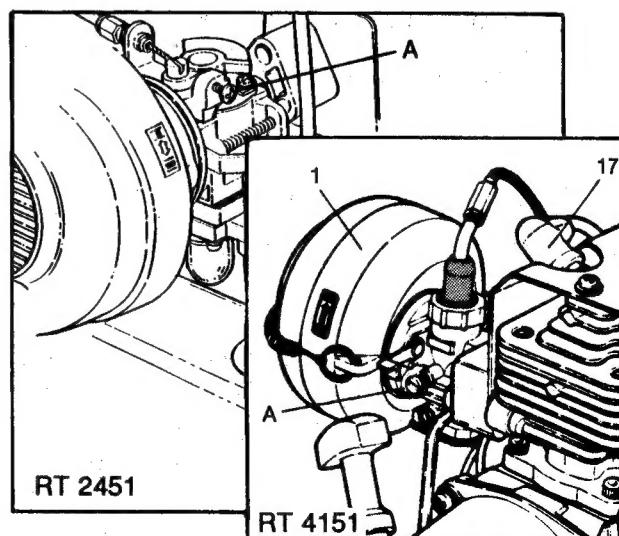

FIG. 13 - SERVICING CARBURETOR
If, after the AIR CLEANER (1), SPARK PLUG (17) and spark arrestor have been inspected/cleaned, the engine will not start, stalls at idle speed, or stalls during rapid acceleration, refer to FIG. 13 and take the following steps:
- 1-A. On the RT 2451, turn the idle screw ((A) FIG. 13) CLOCKWISE 1/8 turn (at a time) and restart the engine - continue this procedure until the engine idles properly.
- 1-B. On the RT 4151, it is possible that the idle mixture screw ((A) FIG. 13) needs to be adjusted if the engine starts, but stalls rather than continue to run at an idle speed. Turn the screw CLOCKWISE 1/8 turn (at a time) and restart engine - continue this procedure until the engine runs at an idle.
2-A. On the RT 2451, an alternate idle adjustment can be made by changing the TRAVEL length of the THROTTLE CABLE (21). The cable enters the rear of adjusting nut (B). Refer to FIG. 13-A and proceed as follows: